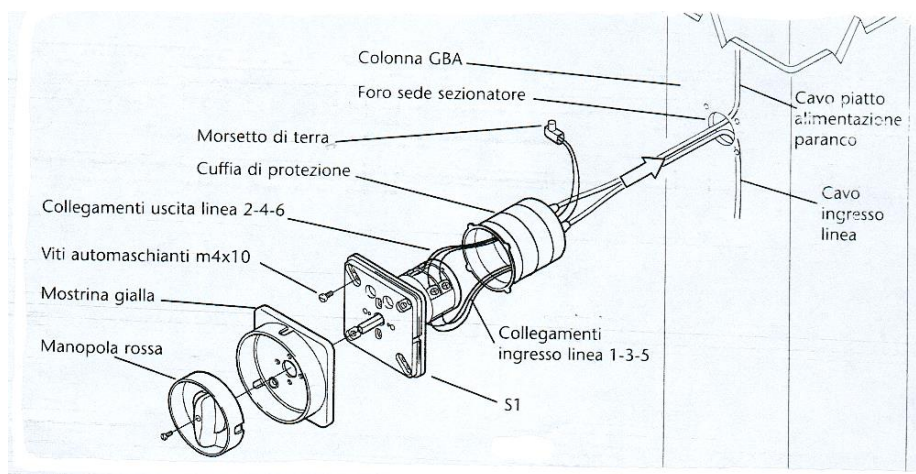

fig. 68
4. Connect the power cable (3) in the rotation control equipment (4) to the L1-L2-L3-N-EARTH clamps
5. Connect the rotation limit switch cable (5) to the clamps corresponding to the wiring diagram.
6. Connect the flat festoon (6), power supply to the hoist/trolley, to the clamps corresponding to the wiring diagram.
7. Connect the flat festoon cable (6) in the equipment on board the hoist to the clamps corresponding to the wiring diagram.
8. Assemble and connect the isolator as shown on fig. 68
6. assembly with the application of the yellow frame and of the red knob as in fig. 68.